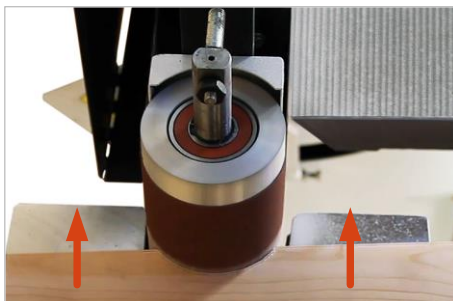

Figure 39: Sanding an inner radius
- For this, press the workpiece slowly and centrally against the sanding drum (see arrow in ⇒ Figure 39).